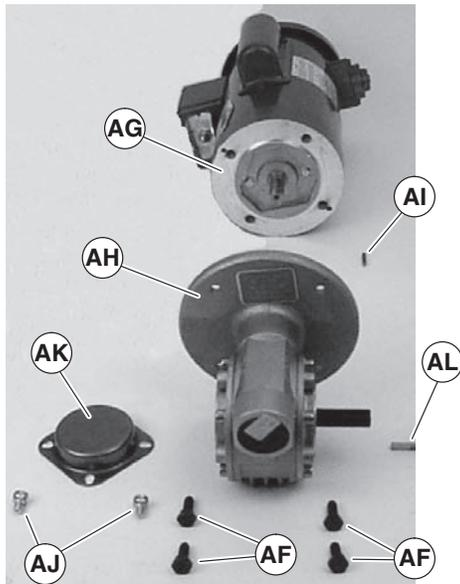

Figure 24
- Remove four screws (Figure 24, item AF). Detach motor (AG) from gear reducer (AH). Retain motor output shaft key (AI).
- With key (Figure 24, item AI) in keyway, slide motor (AG) and gear reducer (AH) together. Install screws (AF) and tighten.